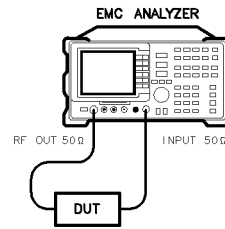

Figure 8-2. Transmission measurement test setup.
2. To measure the rejection of a bandpass filter, connect the equipment as shown in Figure 8-2. This example uses a bandpass filter with a center frequency of 145.4 MHz as the DUT.